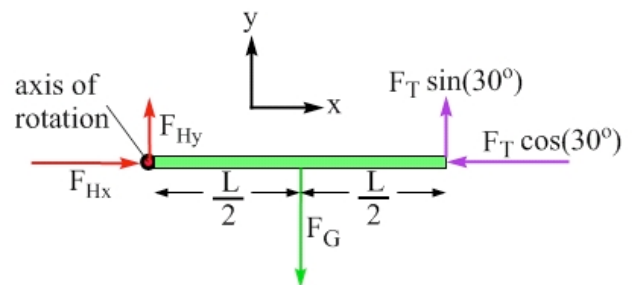

Figure 10.26: A free-body diagram showing the x - y coordinate system, and with all forces split into components.
Step 2 – Apply Newton's second law twice, once for the horizontal direction and once for the vertical direction, to come up with two force equations for this situation. Figure 10.26 shows the x - y coordinate system, with positive x to the right and positive y up. The force of tension has been split into components parallel to the coordinate axes.